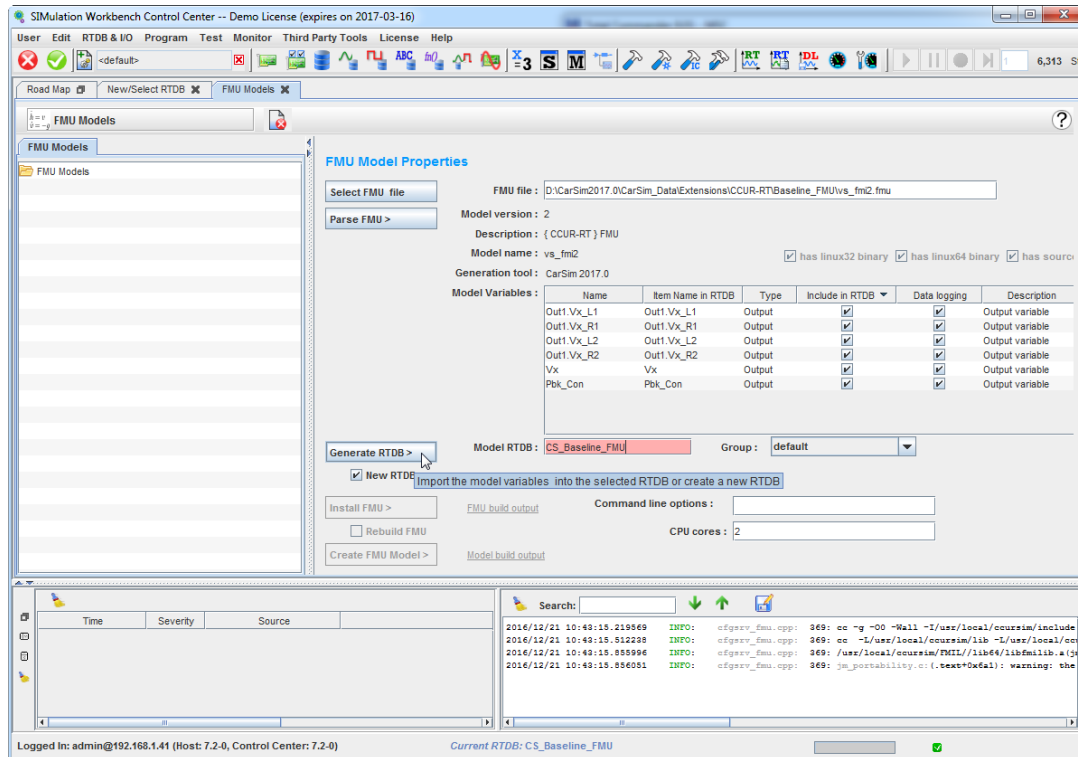

Figure 24. Simulation Workbench Control Center, Generate RTDB.
- When the **FMU Models** tab is open (Figure 24), navigate and select your FMU file. In this example, we are using `vs_fm12.fmu`. Click the **Parse FMU** button. This will display the inputs and outputs variables in FMU to be mapped to RTDB. For our Baseline FMU example, we only have the outputs, so no inputs are shown.